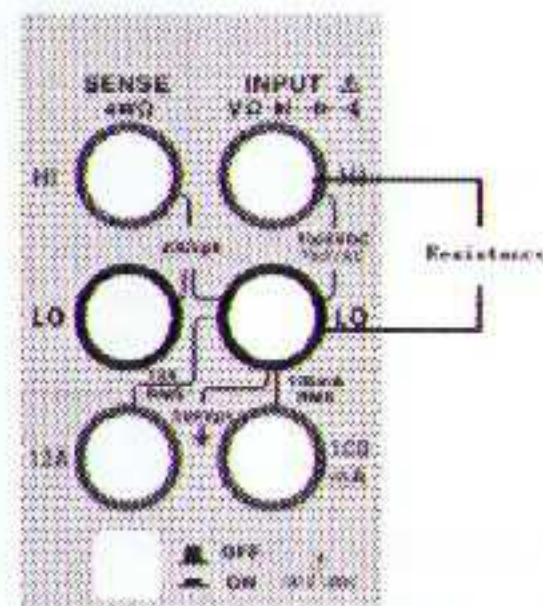

Figure 4-12 Wiring method
2. Connect the red and black test leads to the corresponding input terminals as shown in Figure 4-12.